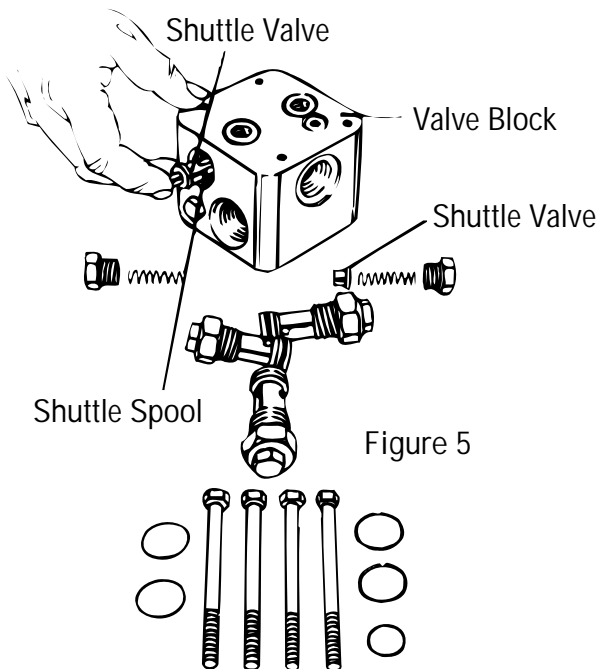

Figure 5
15. Install two high pressure relief valves – as shown in Fig 5. Torque valve to 25 lb-ft [Nm].